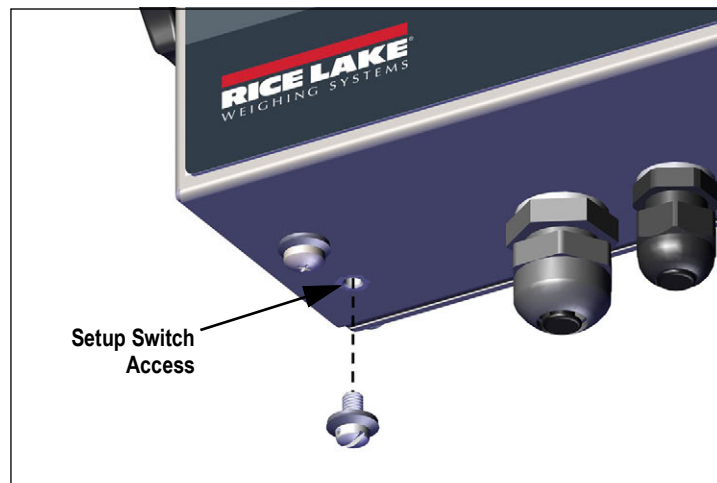

Figure 4-1. Setup Switch Access
1. Access setup mode by pressing the setup switch (Figure 4-1 on page 34). **CONF** displays.